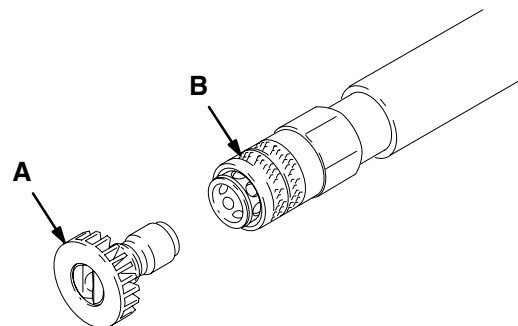

Fig. 2
- Without holding your hand over the spray tip (A), pull back the quick coupler ring (B). Remove the current tip and/or install a different one. Then push back the ring. See Fig. 2.